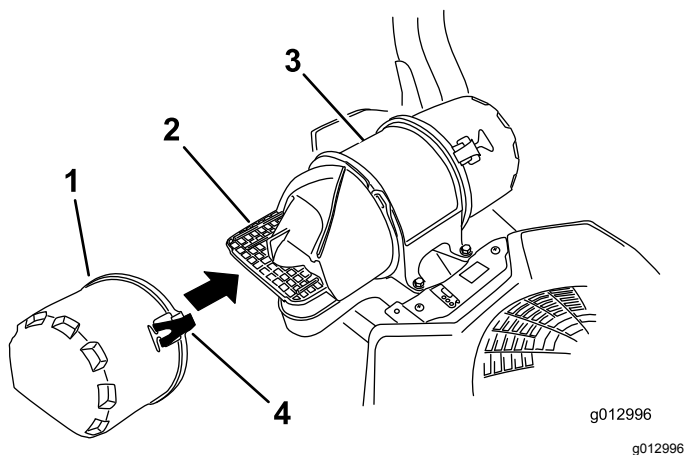

Figure 47
3. Release the latches on the air cleaner, and pull the air-inlet cover off the air-cleaner body (Figure 47).
5. Install the air-inlet cover and secure it with the latches (Figure 47).